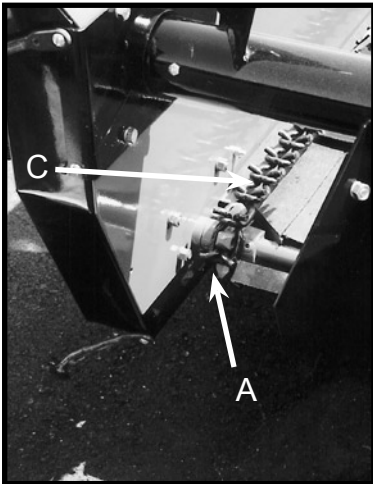

Figure 16-1
- A. Apron shaft bearings - Two (2) Figure 16-1
- C. Lubricate the apron chain with SAE #30 oil or similar lubricant at least twice yearly, more often if the manure is of high acid nature or if the machine is stored outside. Regular lubrication of the apron chain will substantially increase its life - Figure 16-1